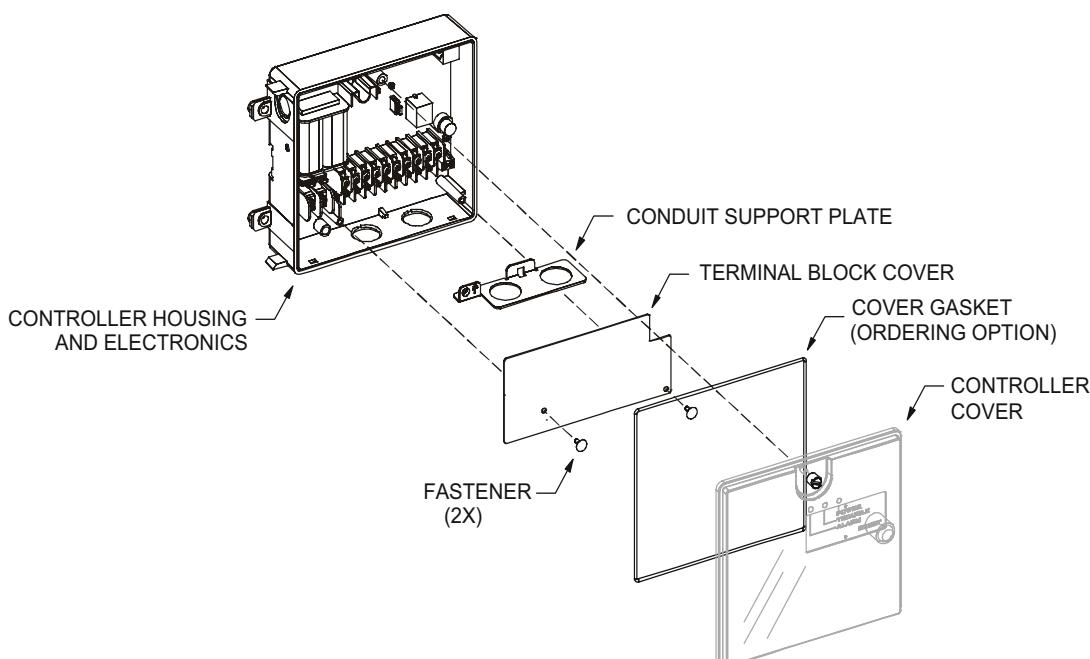

Fig. 2 — Controller Exploded View
2. Remove plastic cover from controller (see Fig. 2).